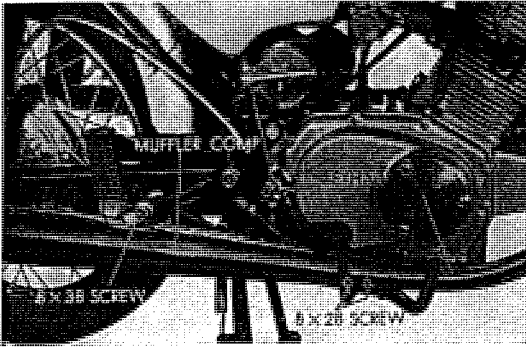

Fig. 4.51 Muffler mounting bolt
4. The muffler is secured together with the footrest. By loosening the 2×58 hex bolts, the exhaust pipe and muffler are separated as a unit from the frame. (Refer to Fig. 4.51)